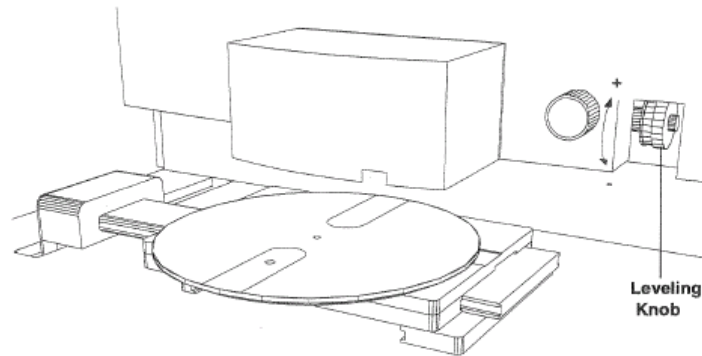

Figure 6-12 Leveling the Stage
3. Open the measurement area door. Turn the leveling knob (Fig. 6-12) by the number of counts prompted in Step 2, clockwise for + or counterclockwise for -. Note: One turn equals 10 counts.